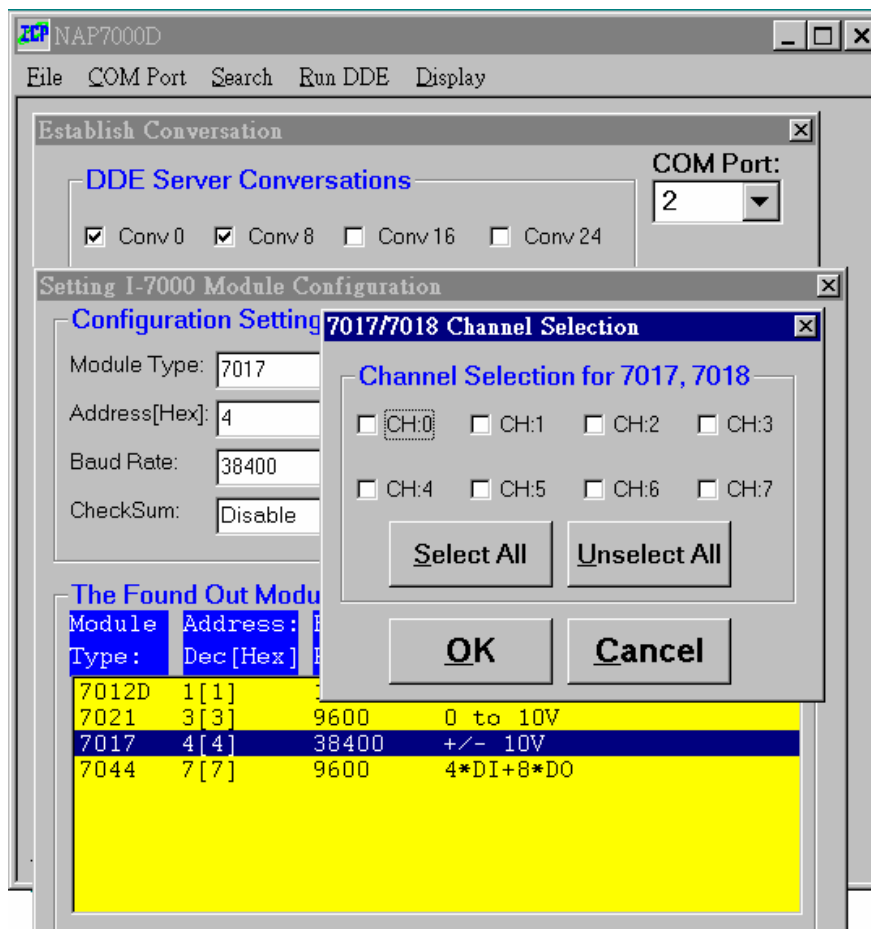

Fig 2-14 The **7017/7018 Channel Selection** window.
Step 3: After selecting 7017, a window titled **7017/7018 Channel selection** will pop up as Fig 2-14 shown. The user can check the desired input channel to received analog input data. Or just push **Select All** button to select all eight channels. After check the desire channels then push **OK** button to complete the channel selection. Or pushing **Cancel** button to cancel the channel selection.